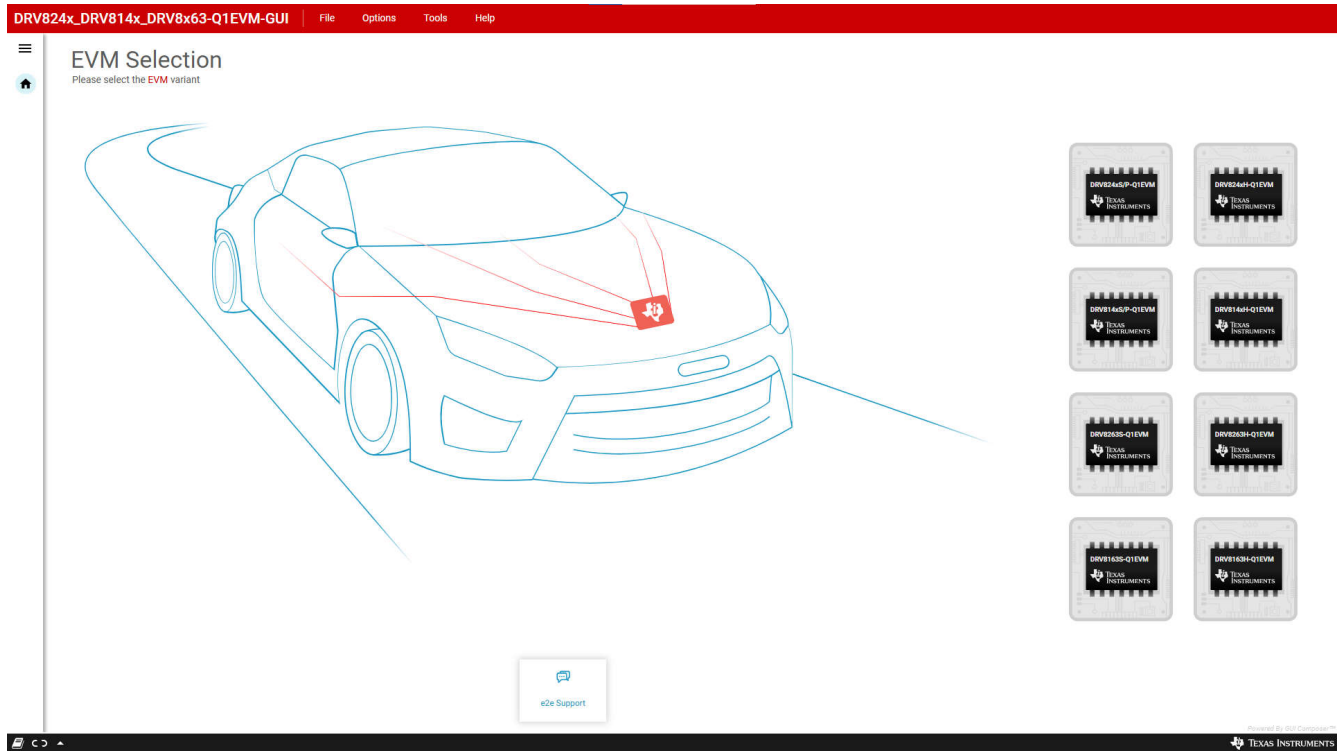

Figure 4-1. DRV824x_DRV814x_DRV8x63-Q1EVM GUI Home Screen
2. From the screen referenced in Figure 4-1, select the EVM variant connected using the icons on the right.